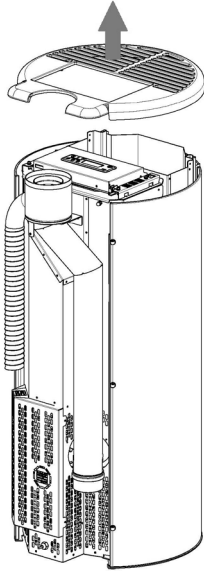

Fig. 72 - Top removal
- Remove the cast iron cover (see **Fig. 72**).